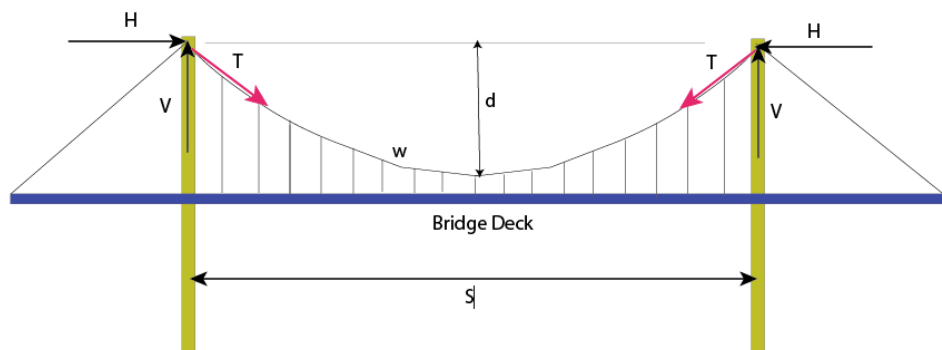

Figure 2. Suspension Bridge.
Figure 2 illustrates the basic forces acting on a suspension bridge. The weight per unit length ( $w$ ) is 168 kN/meter for the bridge in question. Formulas to calculate the horizontal ( $H$ ) and vertical ( $V$ ) forces acting on the bridge tower are:
where:  $w$  is the load applied on the suspension cable per unit length (kN/m),  $S$  is the span of the suspension bridge (meters),  $d$  is the maximum dip (meters) of the cable (see Figure 2) and  $T$  is the suspension cable tension (N).